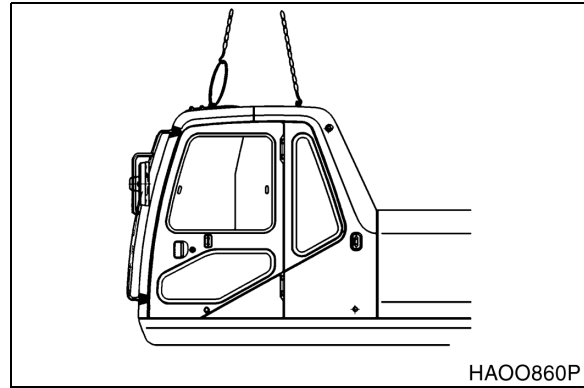

Figure 8
1. Using a suitable lifting device, attach slings to four lift points on top of cab (Figure 8).